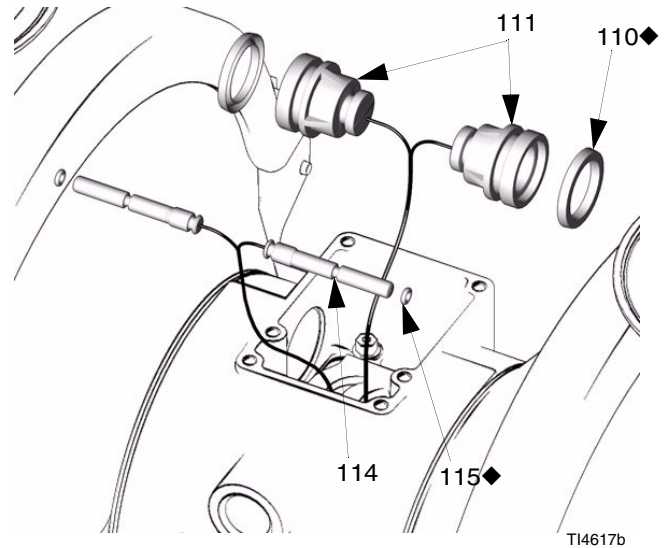

FIG. 10
3. Install an o-ring (115) on each pilot pin (114). Grease the pins and o-rings. Insert the pins into the bearings, **narrow** end first. See FIG. 10.
4. Install u-cups (110) on each actuator piston (111), so the lips of the packings face the **narrow** end of the pistons. See FIG. 10.
5. Lubricate the u-cups (110) and actuator pistons (111). Insert the actuator pistons in the bearings, **wide** end first. Leave the narrow end of the pistons exposed. See FIG. 10.